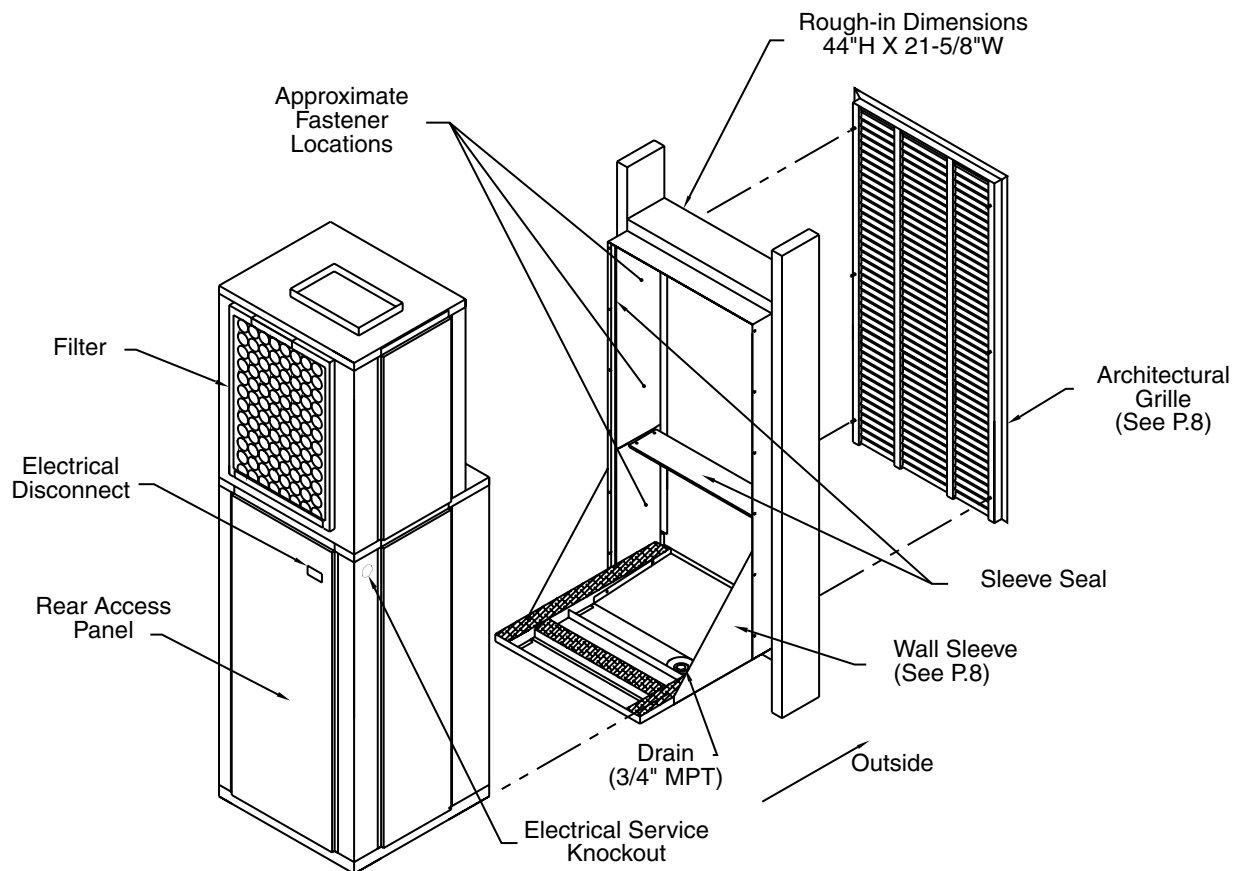

Figure 1 - General Assembly
5. **Wall Sleeve** – (See Figures 1, 4 and 5) Rear or side install wall sleeves are provided for installation during rough-in and, when ready, the **SPXA** unit is simply slid into the sleeve and the ductwork and electrical connected. The sleeve is a weight-bearing sleeve that supports the entire weight of the **SPXA** unit and provides a weather tight seal against wind and water infiltration. A 3/4" male NPT fitting is provided in the bottom of the sleeve for field connection to a condensate riser. Four wall sleeve depths are available to accommodate wall thickness from 5" to 20". Each sleeve includes a factory installed "weather guard" to cover the sleeve opening during construction.